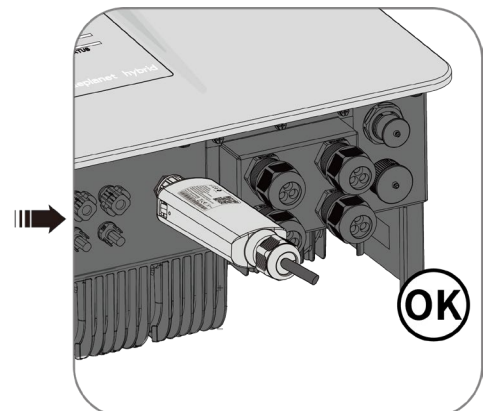

Fig. 44. Connect the Communication unit
2. Insert the Communication unit into the existing connection and screw it tightly into the connection using the nut on the Communication unit (see Fig. 44).